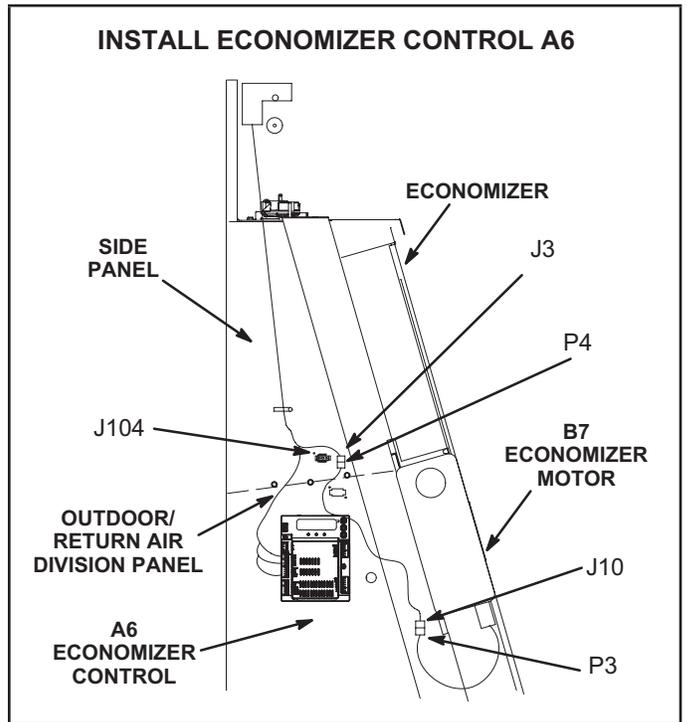

FIGURE 39
1-Install A6 economizer control on economizer side panel as shown in FIGURE 39. Secure with #6-32 X 7/8" TFS screws provided.
- 1 - Locate 15-pin J3 unit control harness hanging on left side of filter compartment. See FIGURE 39. Disconnect P3 jumper plug from J3 and retain jumper plug for future troubleshooting.
- 2 - Connect the 15-pin male plug P4 from the economizer control (A6) harness to the 15-pin female jack J3 on the unit control harness. See FIGURE 39.
- 3 - Locate brown and yellow kit harness with wires labeled J104-1 & J104-2 on one end and A6-OAT, A6-COM, & A6-AUX-A1 on the other end. Insert the connector with wires labeled J104-1 & 2 into the opening on economizer side panel and snap into place. See FIGURE 39.
- 4 - Connect the 15-pin female plug J10 to the 15-pin male plug P3 from the damper motor. See FIGURE 39.